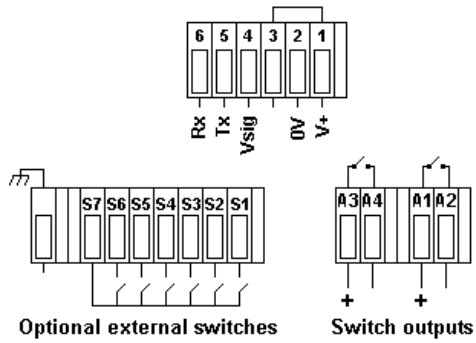

Fig 9 Dimensions and terminal connections
- d. Connect the field wiring to the terminals as shown in Fig 9.